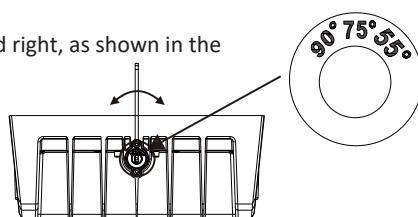

figure 20
2. Adjust the handle to the desired Angle by turning it left and right, as shown in the picture.(Figure 20)